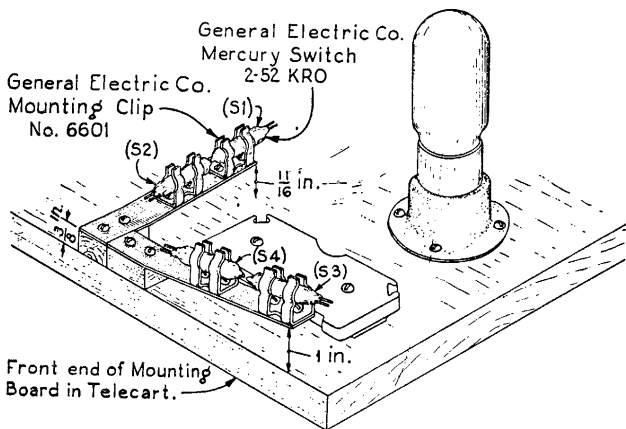

Fig. 2
3.05 When telecarts are tipped or tilted in certain directions, they are vulnerable to fraudulent operation. In order to prevent this a special applique circuit has been designed and installed in all telecarts. This circuit is activated by mercury switches as described in paragraph 4.06. The location of these switches and the mounting details are illustrated in Figure 2.
4.06 Operation of the Mercury Switch Applique Circuit: The four mercury switches S1, S2, S3 and S4 are mounted in pairs as illustrated in figure 2 such that each pair operates independently. When the Telecart is level, switches S2 and S4 are closed while switches S1 and S3 are open. If the Telecart is tipped in excess of 12° to the right, as viewed facing the coin collector, switch S3 closes and switch S4 opens. Switches S1 and S2 remain unaffected. If the Telecart is tipped in excess of 7°, by elevating the large wheels with the small wheels acting as the pivot point, switch S1 closes and switch S2 opens while switches S3 and S4 remain unaffected. Tipping the Telecart in other directions has no effect upon the circuit.
In addition each Telecart should be checked to insure that the mercury switches are mounted in the proper plane. The pitch of the flat metal strip on which the switches are mounted can be checked by measuring the vertical distance between the ends of the strip and comparing with the correct dimension given in figure 2. When required, the pitch can be adjusted by increasing or decreasing the bend of the metal strip.